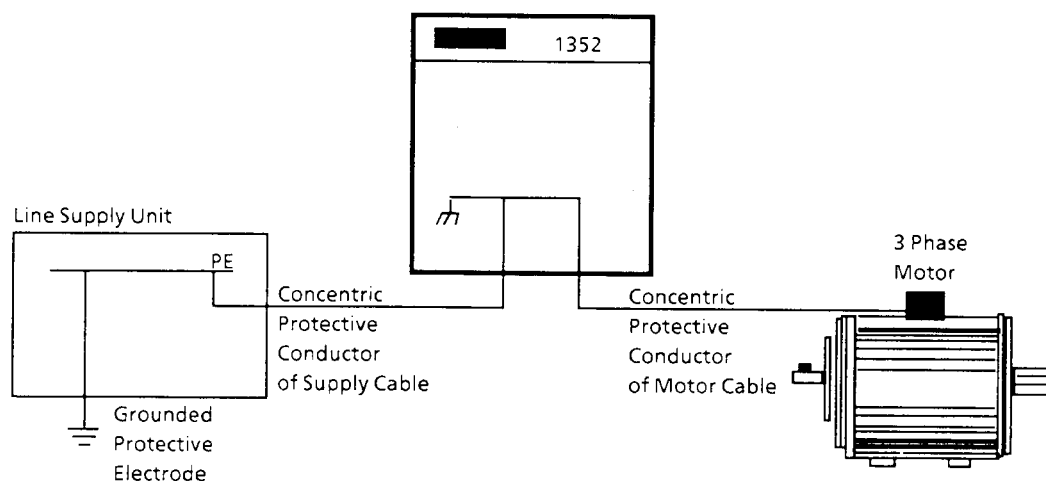
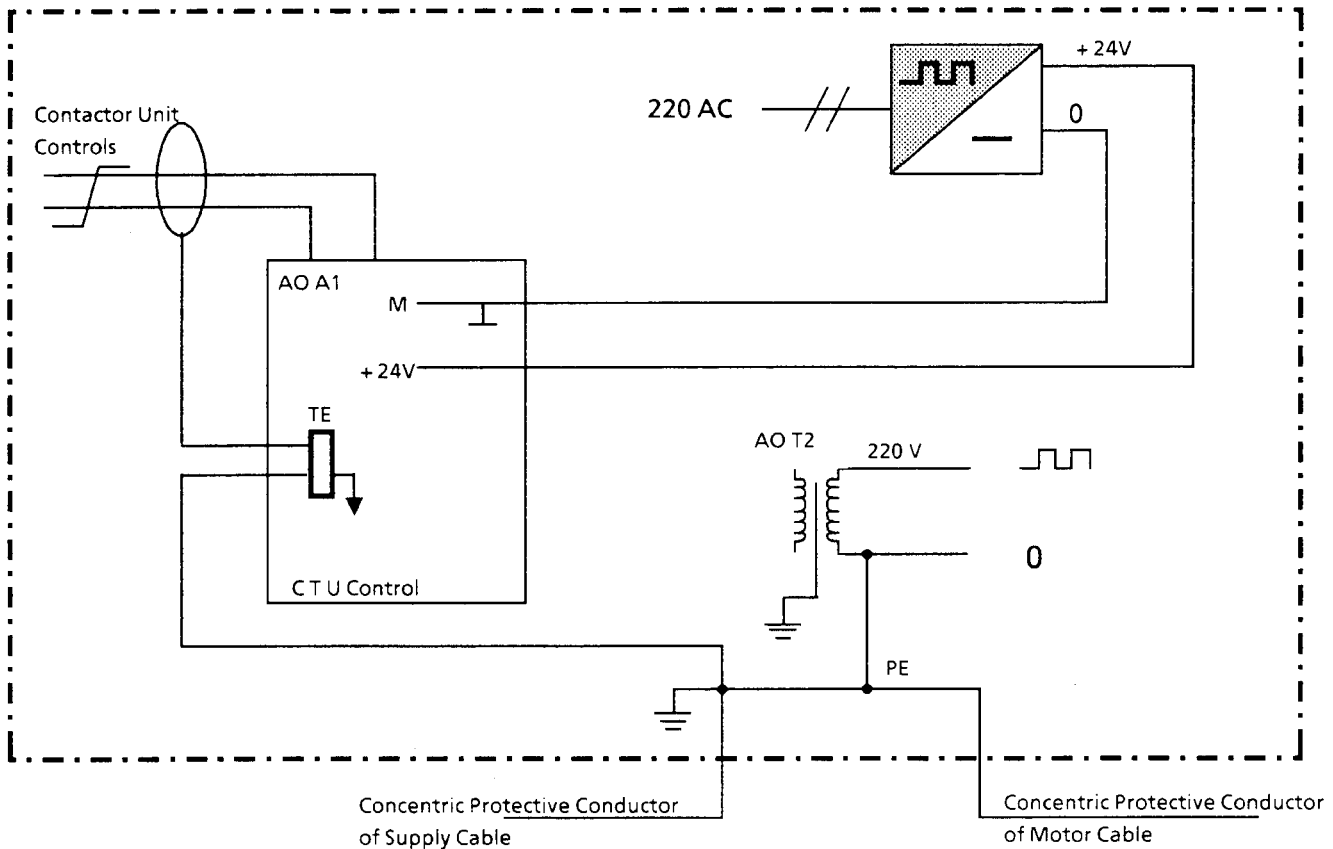

Figure 4-2. Main Circuit Grounding
Figure 4-3. Control Circuit Grounding
- D. That the main circuit (Figure 4-2) is properly grounded, to prevent dangerous voltages from being present during malfunctions. A star type grounding arrangement as shown in Figure 4-3 is the preferred method of grounding the circuits. The shields of the control input and output cables in Figure 4-3 are connected to the TE terminal (Interference-Free protective ground) of the Line Supply Unit.